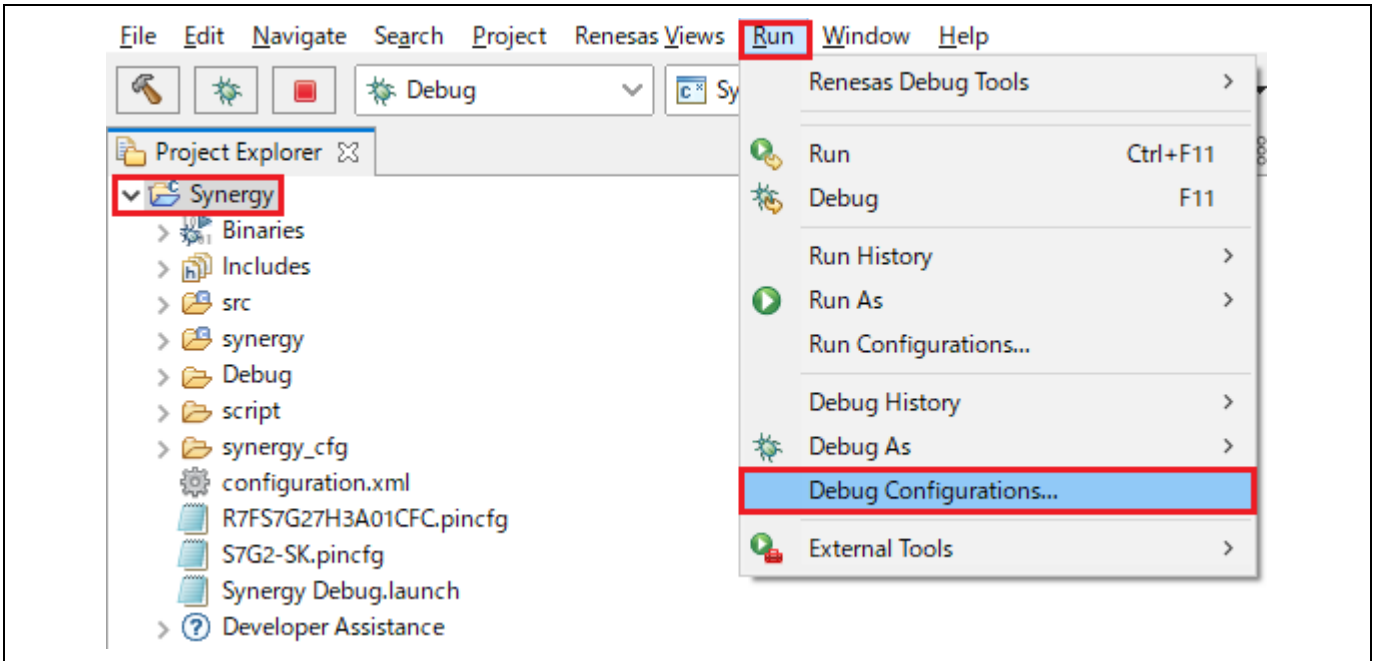

Figure 5-2. Debug – Opening the Debug Configurations Window
1. Open the **Debug Configurations** window (refer to Figure 5-2. Debug – Opening the Debug Configurations Window).
2. In the **Debug Configurations** window, select a debug configuration (for example, **Synergy Debug**) and click the  icon (which duplicates the currently selected launch configuration). A new debug launch configuration (for example, **Synergy Debug (1)**) is created.